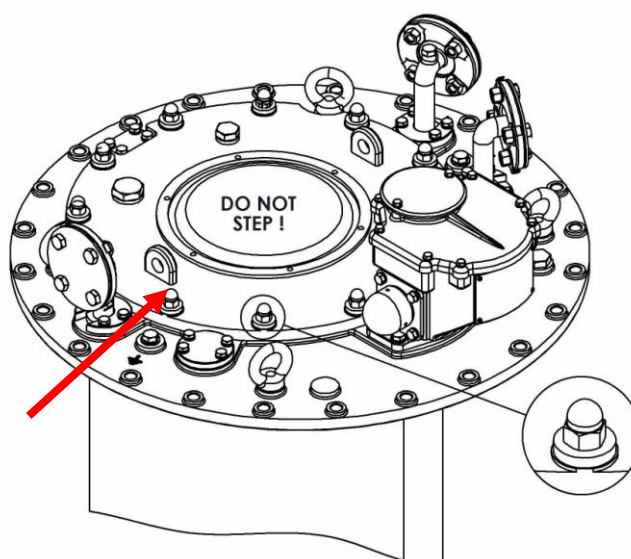

Fig.21 – Cap nuts on the cover of the oil compartment
6.18. Install the cover using washers and M12 cap nuts (40 Nm torque). See Fig. 21.